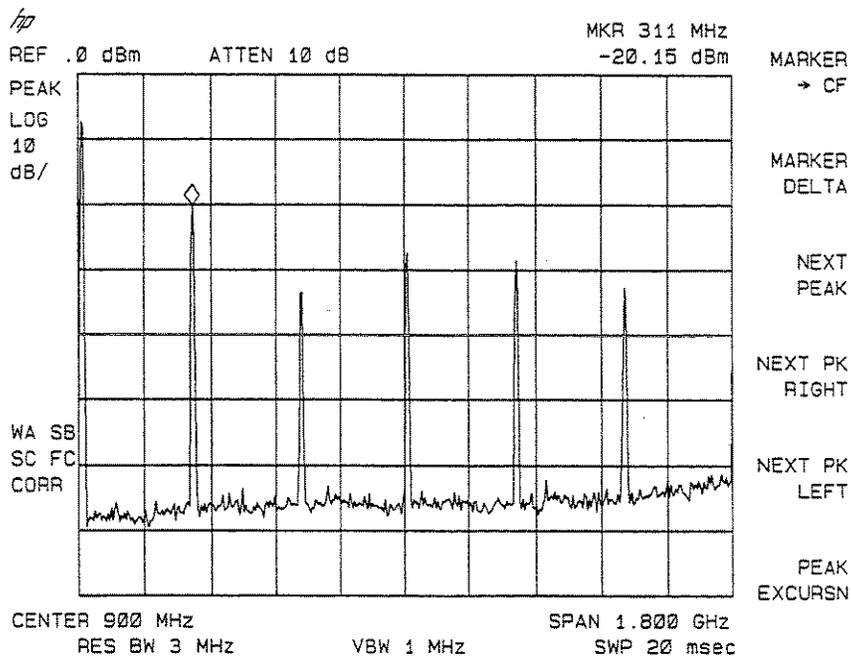

Figure 2-12. Placing a Marker on the CAL OUT Signal
2. Press **PEAK SEARCH** to place a marker at the highest peak on the display. The **NEXT PK RIGHT** and **NEXT PK LEFT** softkeys move the marker from peak to peak. Press **NEXT PK RIGHT** to move the marker to the 300 MHz calibration signal. See Figure 2-12.